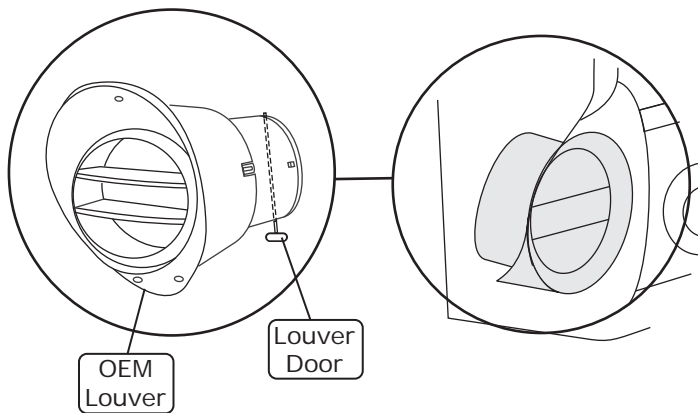

Figure 1
2. Vintage Air recommends removing the louver doors (See Figure 1, below).
1. Install the center louver hose adapter onto the OEM center louver, then secure using (2) OEM nuts as shown in Figure 1, below.